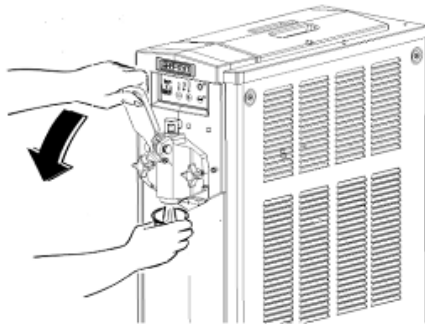

Fig. 40
- Fill the upper tank with lukewarm water and rinse the machine (Fig. 40) in order to flush it to remove the major part of the product residuals.